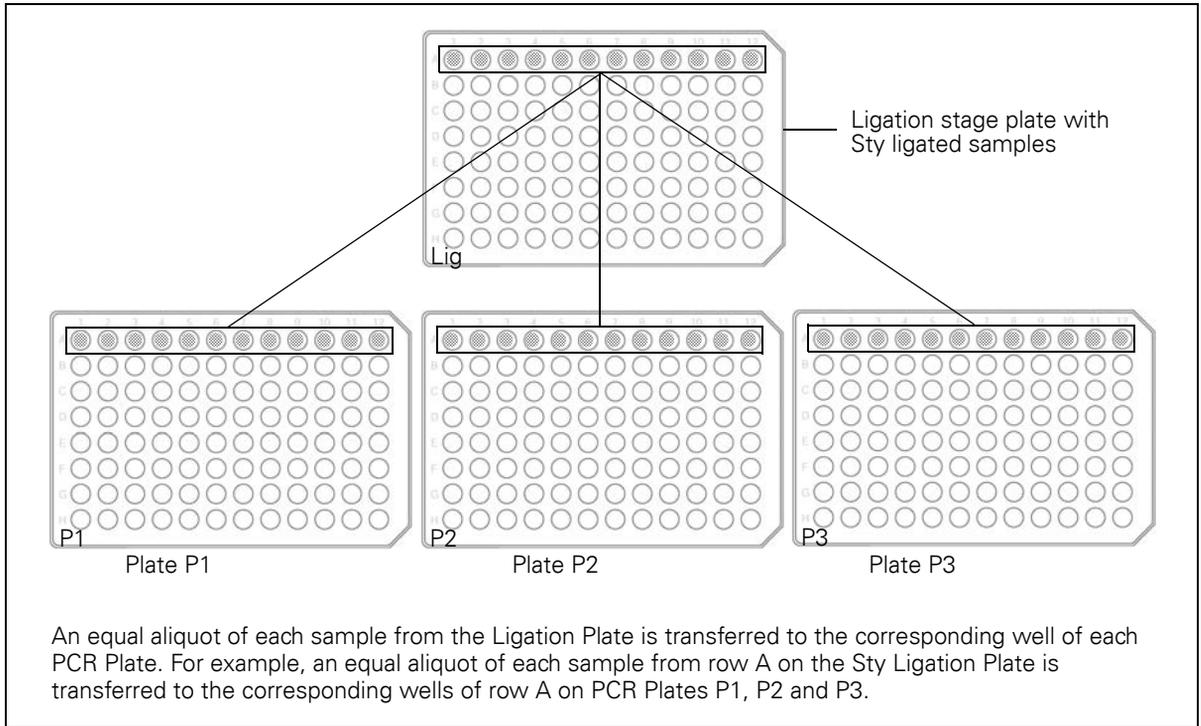

Figure 4.4 Transferring Equal Aliquots of Diluted, Ligated Sty Samples to Three Reaction Plates
- Three 96-well reaction plates labeled *P1*, *P2*, *P3* (see Figure 4.4 on page 54)
Example (Figure 4.4): Transfer 10 μ L of each sample from Row A of the Sty Ligation Stage Plate to the corresponding wells of row A on the plates labeled P1, P2, and P3.